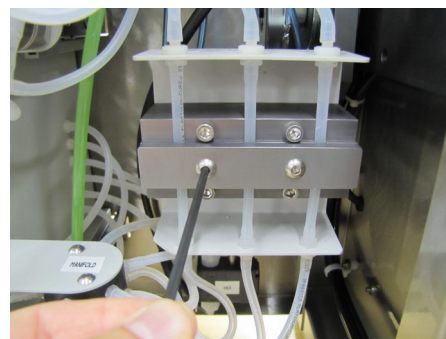

Figure 15
12. Now remove the two screws holding the Enzyme Pinch Bar in place using a 1/8” Allen wrench, as depicted in Figure 15.